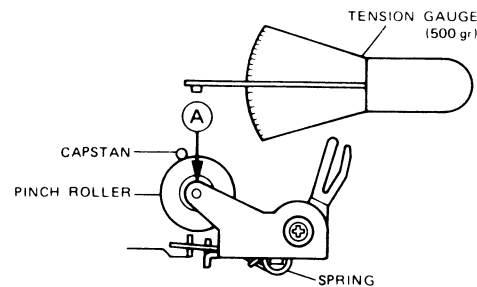

Figure 9 – 1
2. Push the pinch roller, at the point shown in Figure 9 – 1, by using a tension gauge (500 g) so that it will come off the capstan. Then, slowly release the tension until the pinch roller hits the capstan again (i.e., the pinch roller is about to rotate again). Check, then, the tension gauge is reading 260 g to 280 g.